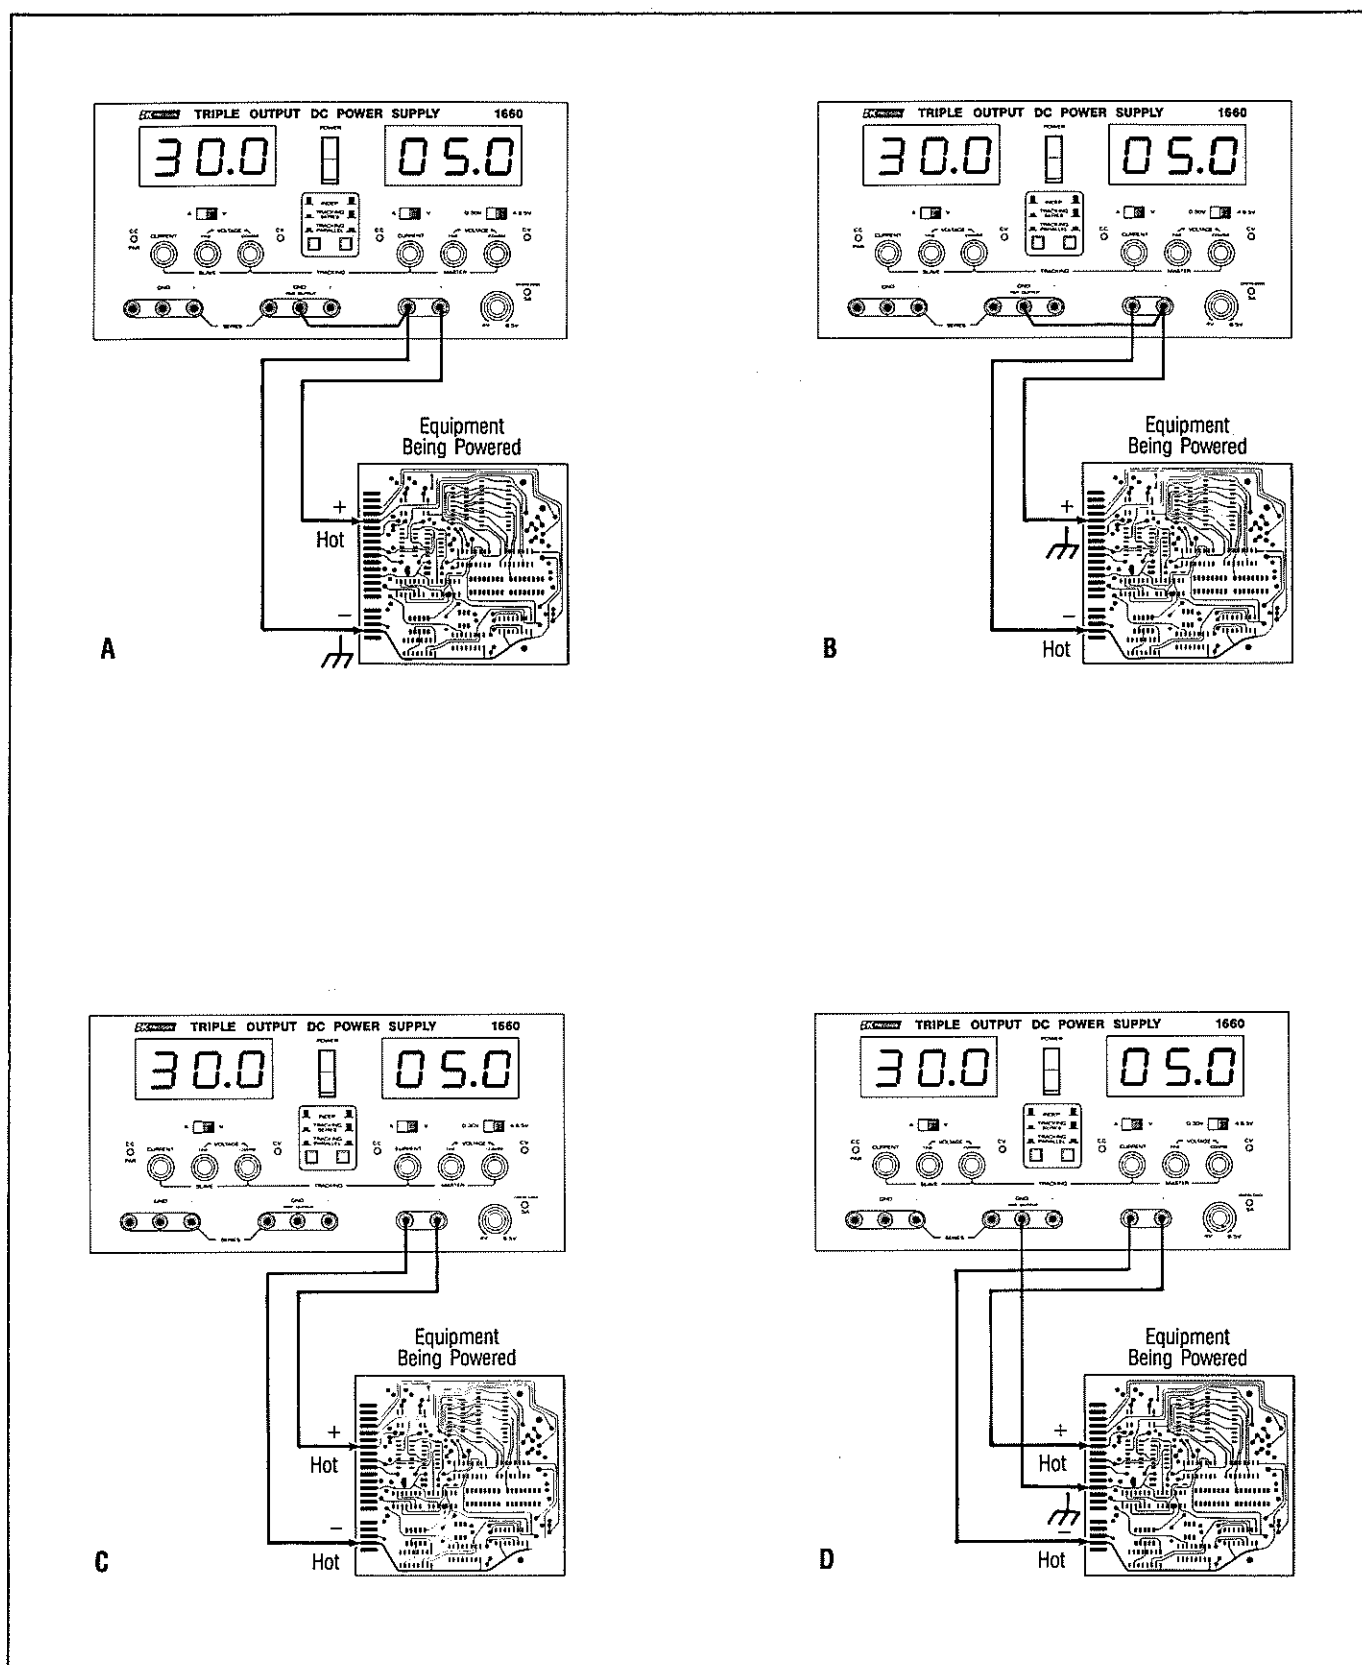

Fig. 10. Grounding Possibilities for 4-6.5 V Power Supply.
6. Fig. 10 illustrates the grounding possibilities of the the 4-6.5 V supply.